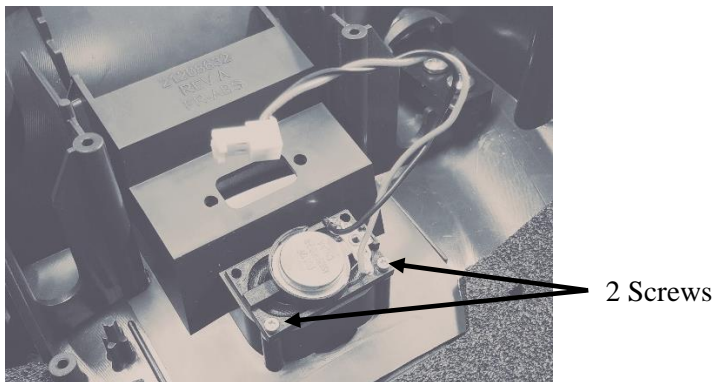

Figure 45b: Speaker Installation.
3. To install a new speaker, use 2 screws as shown on Figure 45b.